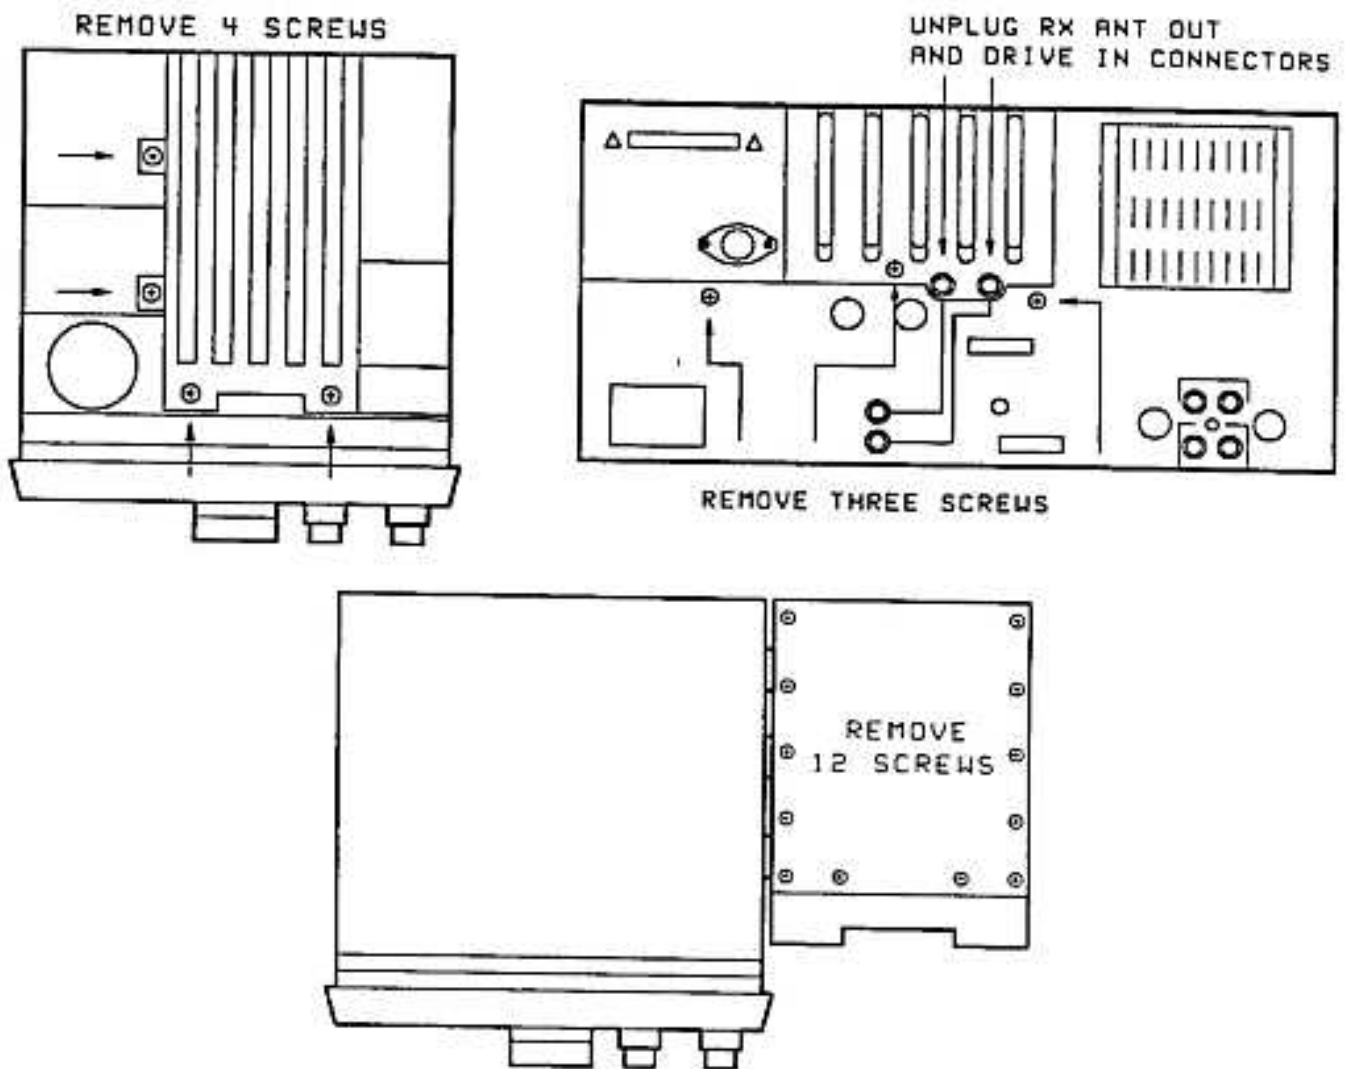

FIGURE 1
3. Open the subchassis as shown in figure 1 (remove 4 top screws, remove 3 back panel screws, unplug the RX ANT OUT and DRIVE IN connectors).
4. Remove the cover from the subchassis (12 screws). FIGURE 1.
6. Solder a 22 AWG jumper wire as shown in figure 1.